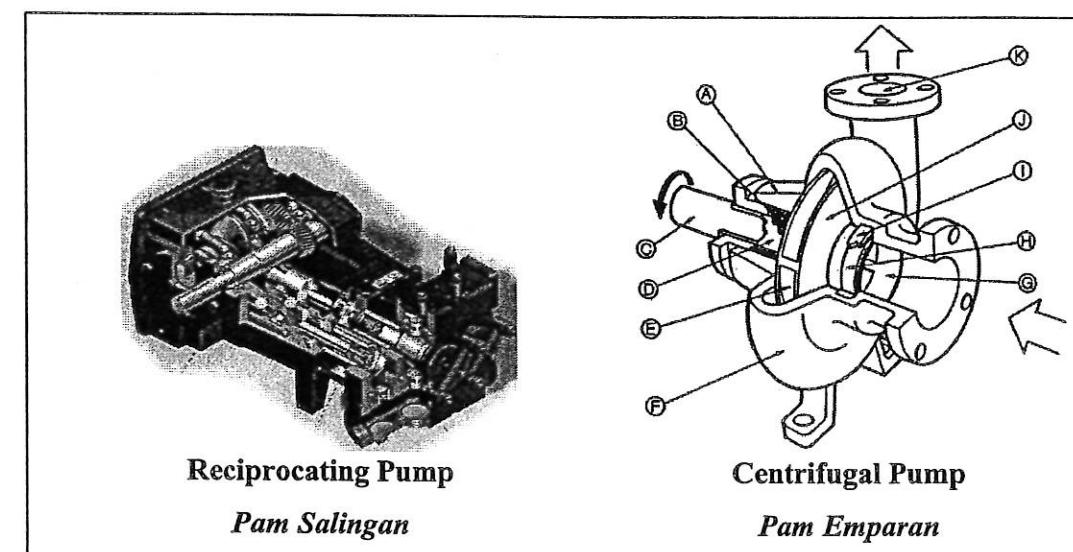

Figure 2 / Gambarajah 2
- (c) **Figure 2** above shows a reciprocating pump and centrifugal pump. Reciprocating pump is categorised in positive displacement pump and rotary pumps. Meanwhile, Centrifugal Pump is categorised in rotor-dynamic pump and axial pumps. Compare **THREE (3)** advantages of reciprocating pump over **THREE (3)** advantages of centrifugal pump.
*Gambarajah 2 di atas menunjukkan sebuah pam salingan dan pam emparan. Pam salingan dikategorikan dalam pam anjakan positif dan pam putaran. Manakala pam empar dikategorikan dalam pam rotor-dinamik dan pam paksian. Bandingkan **TIGA (3)** kelebihan pam salingan dengan **TIGA (3)** kelebihan pam empar.*
- (d) By referring to Centrifugal pump as shown in **Figure 2** above, sketch a labelled sectional view diagram for a Centrifugal Pump showing its internal structure.